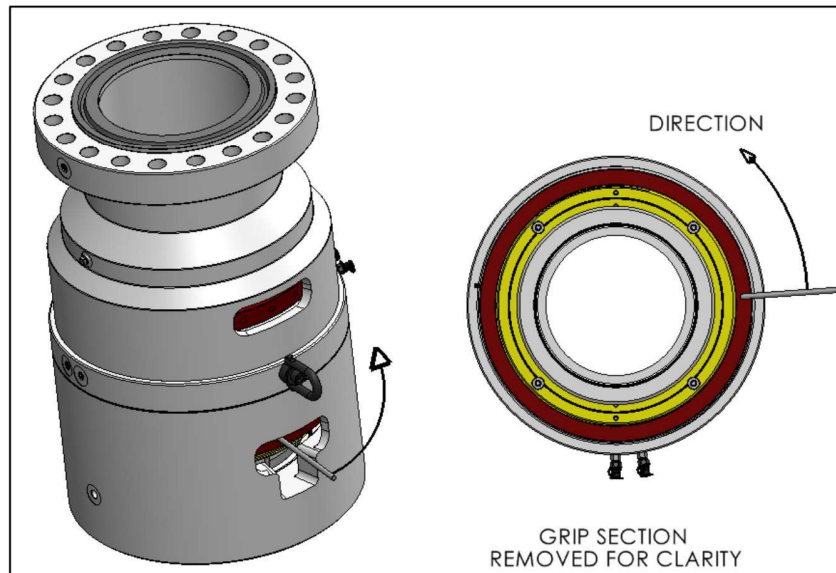

Figure 9
12. Verify that the Grip Retaining Ring is bottomed out on the Middle Section. Rotate the Grip Retaining Ring with a tommy bar until it is bottomed out as shown in Figures 9 & 10.
15. Spin the Grip Retaining Ring with the supplied tommy bar in a clockwise direction until it is bottomed out on the Middle Section. See Figure 9 and 10.